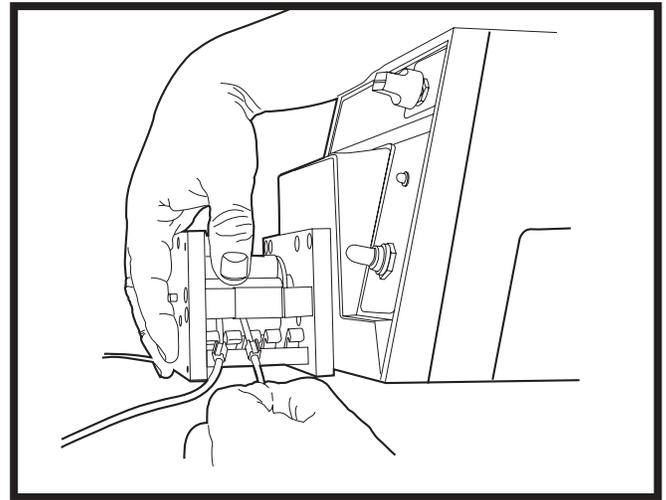

Figure 9, Pull tubing down from slot to release tubing stop collar.
3. Pull tubing down from slot to release tubing stop collar (Figure 9).